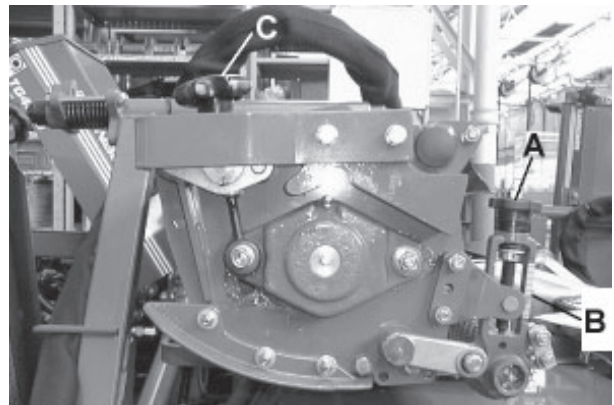

Fig.6
CUTTING CYLINDER TO BOTTOM BLADE ADJUSTMENT (FIG.6)
1. To adjust the cylinder to the bottom blade turn alternately left and right hand handwheels (C Fig.6) clockwise to put on cut. A 'notching' effect will be felt as the handwheel is rotated in a clockwise direction this 'notching' is moving the cylinder in increments of approximately 0.035mm (0.0014in) towards the bottom blade.